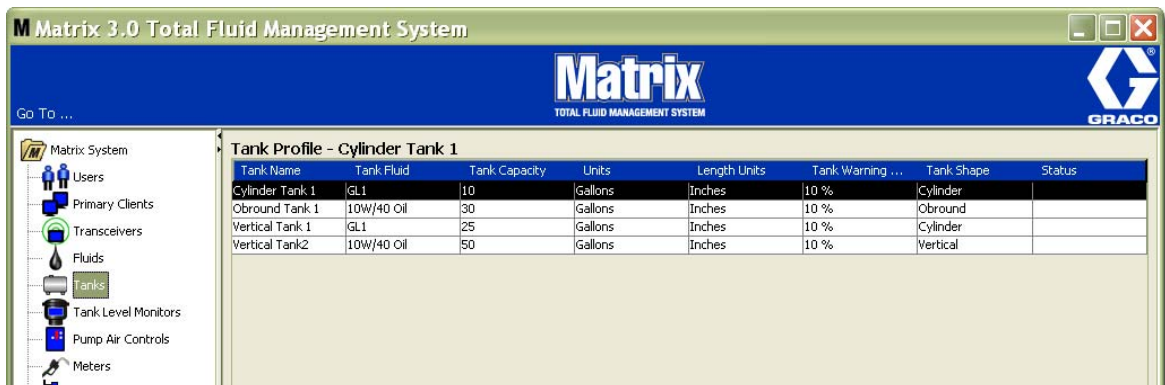

FIG. 116
1. When all required information for the tank profile has been supplied, click OK to close the screen and save the changes. The tank is added to the list as shown in FIG. 116.
2. To modify a Tank profile (FIG. 116) highlight the entry listed on the main Tanks screen as shown in FIG. 116.